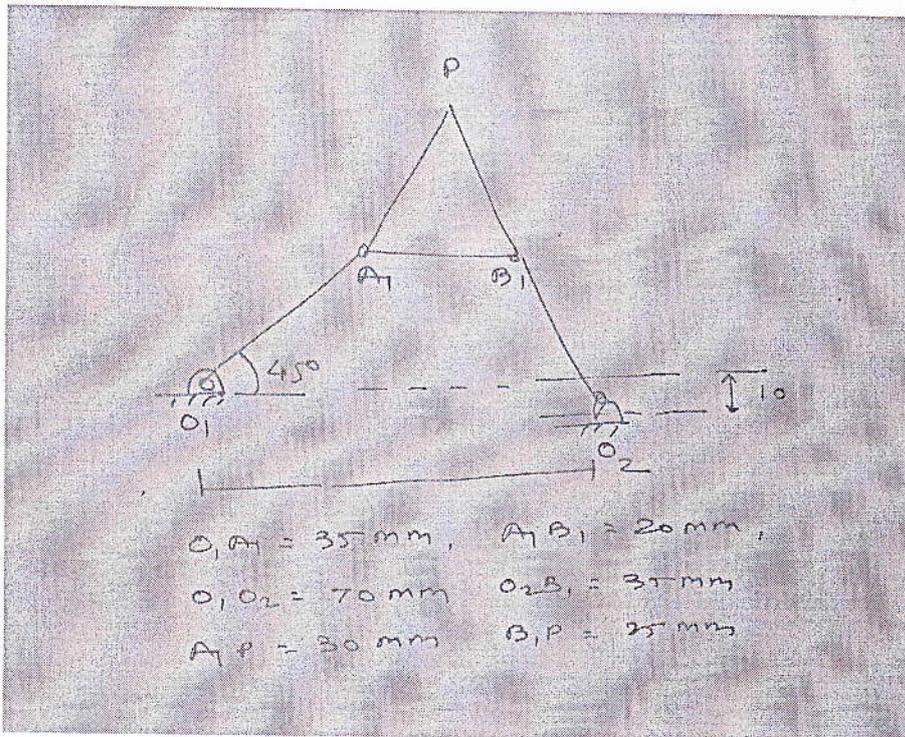

Fig. 3
- a) Design cognates of the coupler curve obtained by point P for the given mechanism. Ref Fig.3